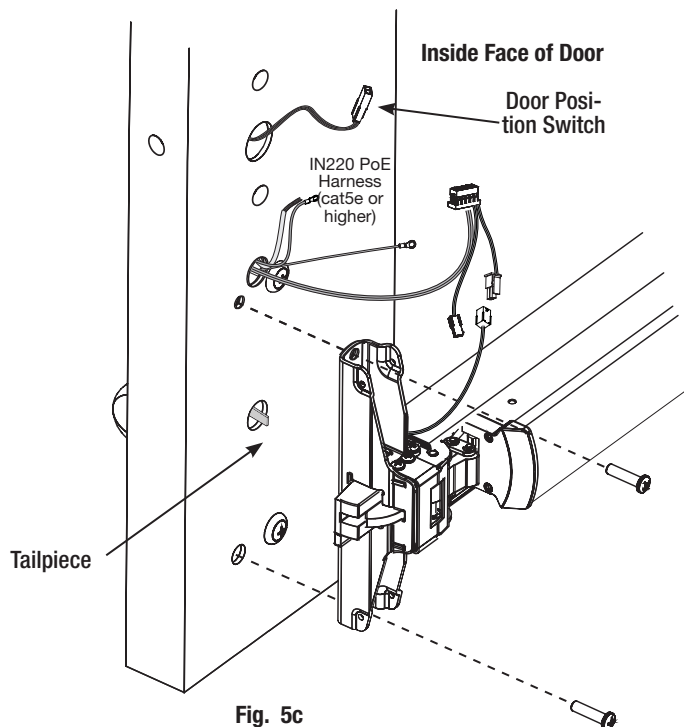

**Fig. 5a**
- a. Feed trim harness through upper hole in cutout (Fig. 5a).